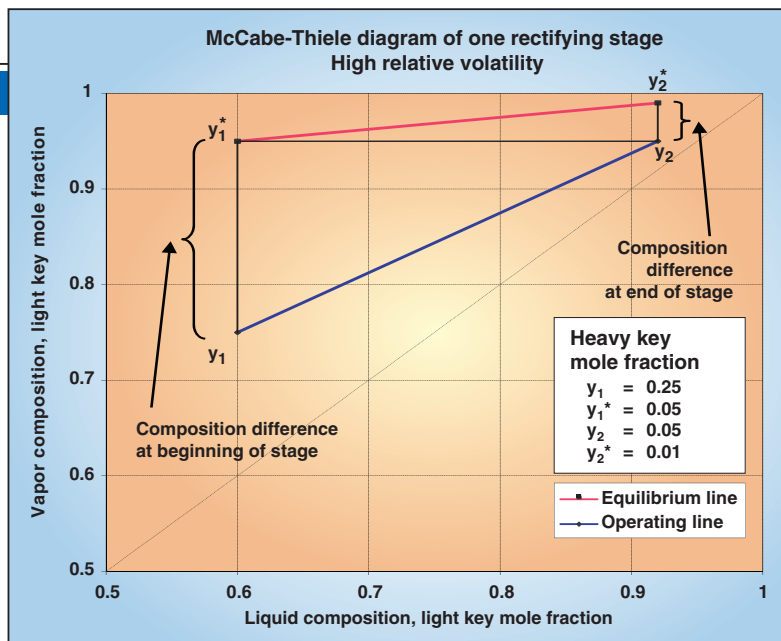

FIGURE 2. In high-relative-volatility distillation, the mass transfer driving force can change severely over one theoretical stage
Figure 2 illustrates one equilibrium stage of a binary high-relative-volatility distillation. Vapor entering the stage has a driving force of 0.20, and 0.20 becomes the expected composition change of the stage. As mass transfer begins and the vapor moves up the operating line, the driving force declines. At the end of the stage, the driving force is only 0.04, so the mass transfer slows to one-fifth of the initial rate. Over the stage, the composition change of 0.20 must be attained with an average driving force much less than 0.20. This stage will require more packing than a stage in low-relative-volatility distillation, where the driving force stays constant over each stage.
Transfer units account for the change in mass transfer rate that is caused by changing driving force. We can evaluate the number of transfer units that the theoretical stage in Figure 2 represents for the heavy key component. Because the operating line and the equilibrium line are both locally straight, the integral in Equation (7) is simplified by the use of log mean driving force:
The composition change $(y_1 - y_2)$ is $(0.25 - 0.05) = 0.20$. The log mean $(y - y^*)$ is the log mean of $(0.25 - 0.05)$ and $(0.05 - 0.01)$, or 0.0994. NTU_{OG} is $(0.20) / (0.0994) = 2.01$. So the one theoretical stage in Figure 2 is two transfer units.
Example 1: A column requires three stages of rectification, where the heavy key component diminishes by a factor of five on each stage, as in Figure 2. As implied by Table 1, the three stages are equal to about six transfer units ($NTU_{OG} = 6$). A packing characteristic $HETP$ value of 15 in. is also the HTU_{OG} in conditions similar to the distillation tests. Therefore:
In Example 1 and Figure 2, the value of m is 0.125 and L/G is 0.625, so λ is 0.20 and $(\ln \lambda) / (\lambda - 1)$ is 2.01. Based on these values, the NTU is 6, the $HETP$ is 30 in., and the bed depth is 90 in., just as previously calculated. Equilibrium stage simulations can be modified to calculate and tabulate values of λ and $(\ln \lambda) / (\lambda - 1)$ automatically.